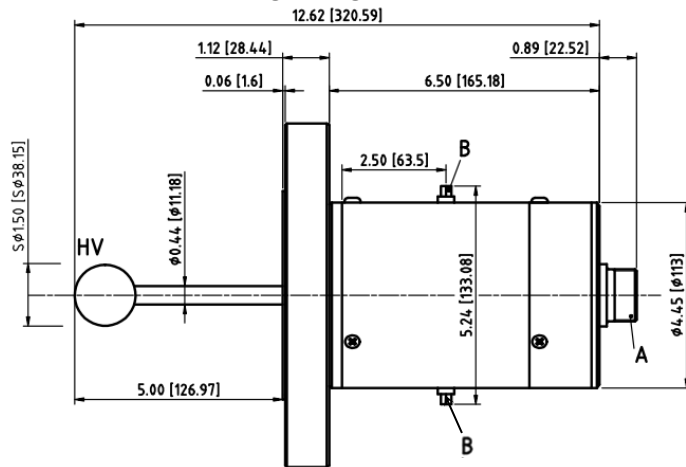

Figure 3.12: Location of Air / Inert Gas Cooling Fittings
- Remove the cooling port shipping plugs from locations B in Figure 3.12. **BOTH** shipping plugs must be removed, and **BOTH** fittings installed for proper cooling airflow.
- Use Teflon tape on the 1/8" NPT stainless steel fitting threads and install the fittings in the dome at the locations from where the plugs were removed (positions marked B) in Figure 3.12.